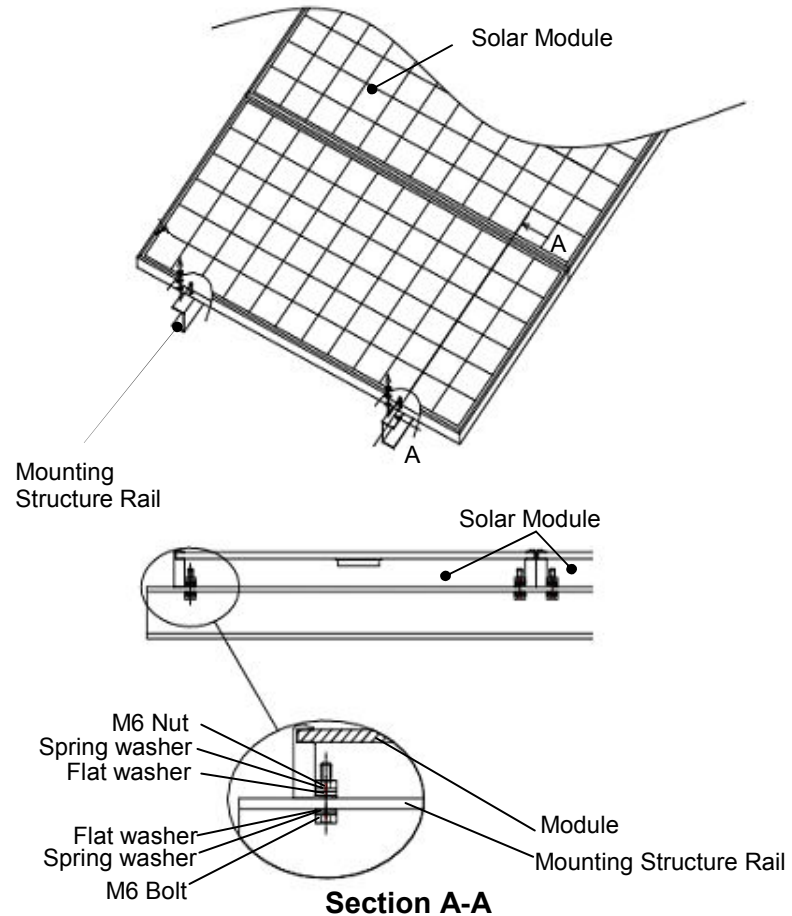

Figure 1: Installation
- We recommend installation methods shown in Figure 1. In some areas, local electrical codes may govern the installation and use of PV modules.